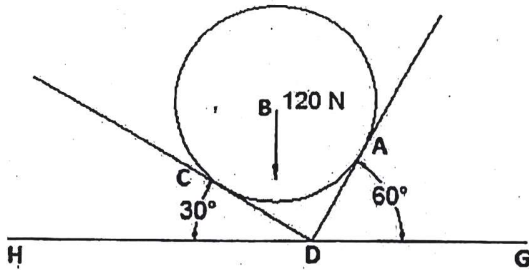

Figure 1.3
9. A ball of weight 120N rests in a right angled groove as shown in Figure 1.3. If all the surfaces are smooth, determine the reactions at all points of contact.